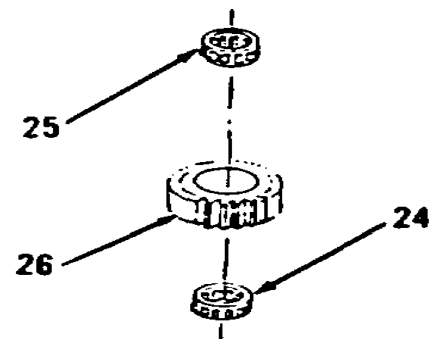

Figure 5-135.
10. Install three rollers (25 and 24) in gears (26, Figure 5-135).